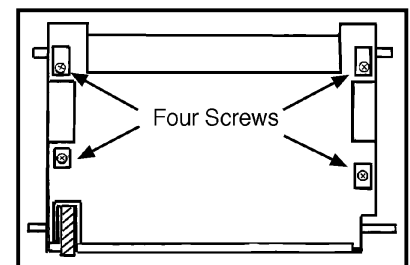

Figure 2
2. Remove four screws on bottom of belt housing (Fig. 2).